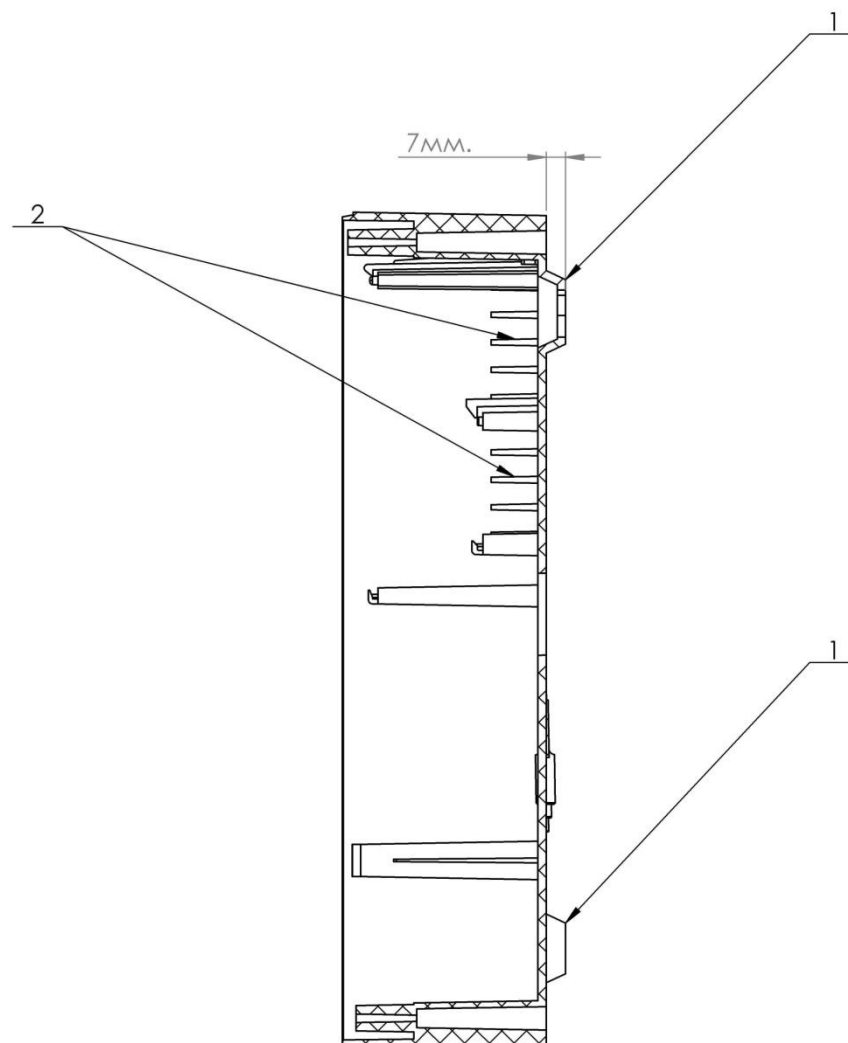

Fig.7
- The distance between the wall and the backside of the FCP cabinet is 7 mm (fig.7). For correct installation, there should be no cables or obstacles in the gap between the cabinet and the wall, which are more than 7 mm (fig.7, pos.1);
- The dedicated cabinet openings (fig.7, pos.2) shall be open, for proper heat convection.